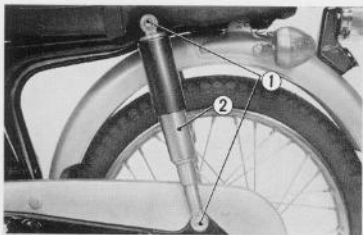

Fig. 4.77 Removing rear cushion
1. Remove the 8 mm upper and lower cap nuts ①. Remove the rear cushion assembly ②. (Fig. 4.77)